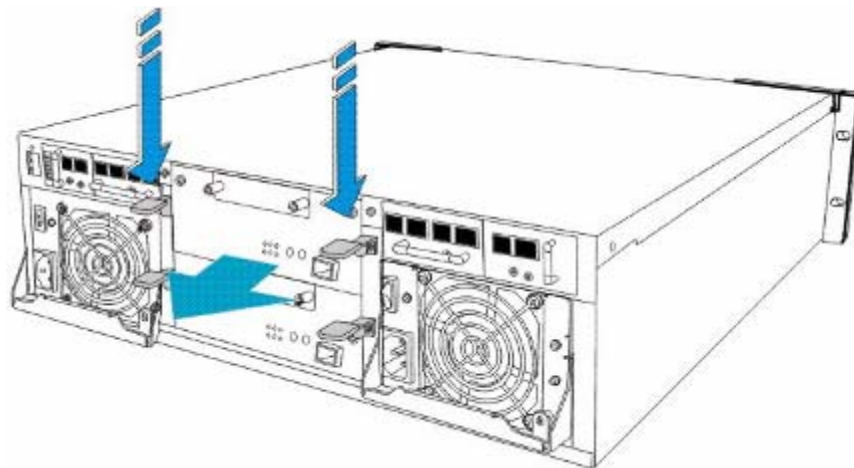

Figure 5-2: Pressing down the Ejection Levels
Step 3. Remove the controller module by pressing down the two (2) levers at the back of the controller module. The controller module will automatically be eased out of the controller module bay. (See *Figure 5-2*)